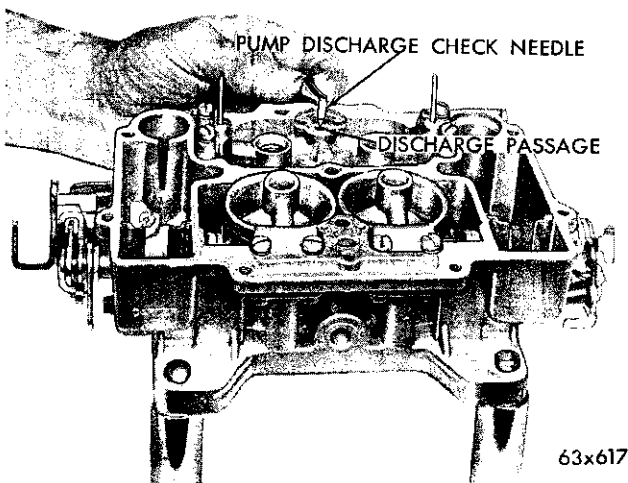

Fig. 13—Installing the Pump Discharge Check Needle
(1) Pour clean gasoline into the float bowl (pump side) approximately 1/2 inch deep. Remove the pump plunger from the jar of gasoline and flex the leather several times, then slide down into the pump well.
(2) Install the accelerator pump discharge check needle in the discharge passage, as shown in Figure 13. Raise the pump plunger and press lightly on the plunger shaft to expel air from the pump passage.